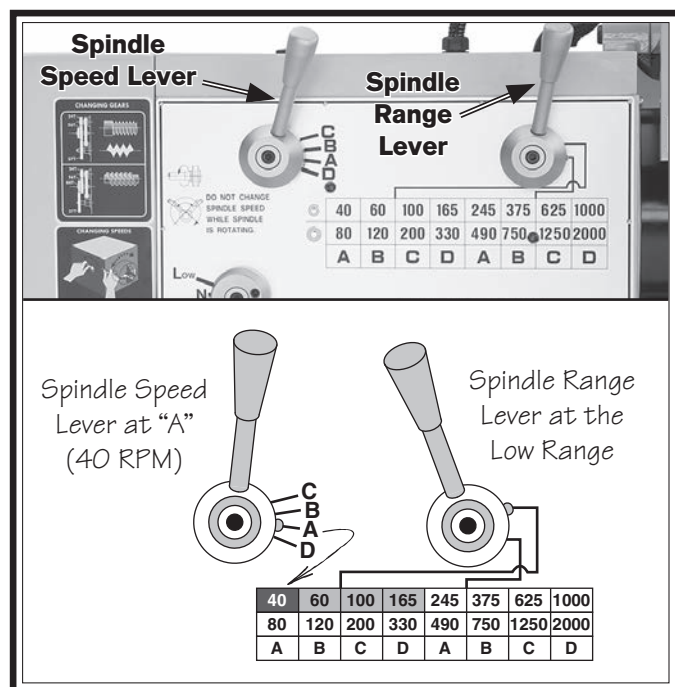

Figure 31. Spindle speed set to 40 RPM.
- b. Move the spindle range lever so that the indicator points to the upper line on the right—this is the low range for this motor speed (see **Figure 31**).